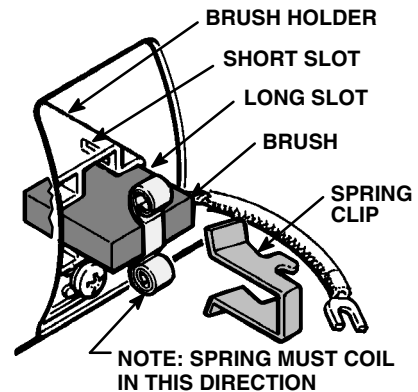

Fig 25
6. Place a new brush in the holder with the lead in the long slot of the holder. Slide the terminal under the terminal screw washer. Ensure the motor lead is still connected. See Fig 25.
7. Place the spring on the brush. See Fig 25.
8. Install the spring clip and push it down to catch its hooks on the short slots in the housing. See Fig 25.